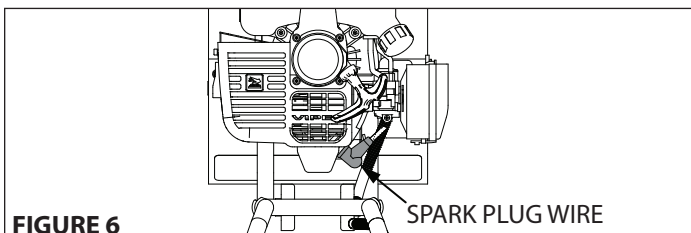

FIGURE 6
2. Disconnect the spark plug wire from the spark plug. **SEE FIGURE 6**